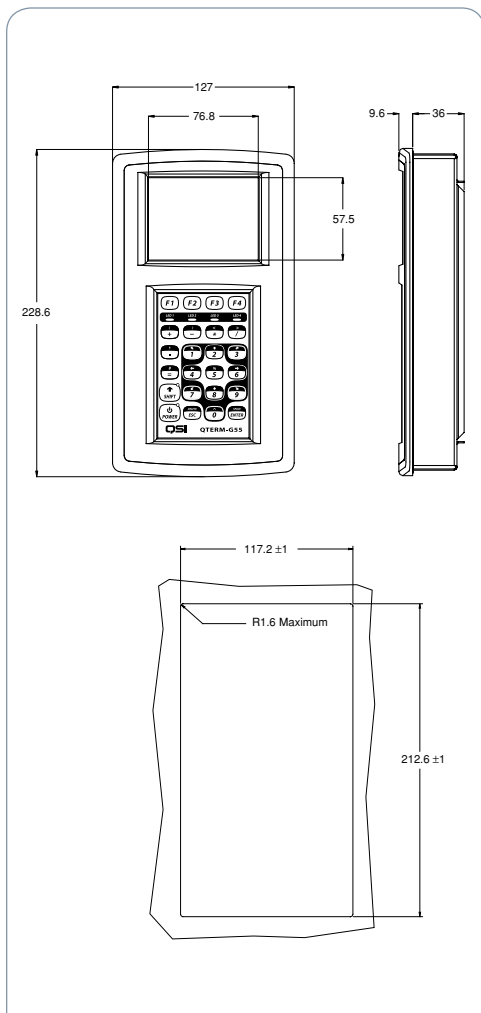

Figure 3 ▲ *QTERM-G55 panel-mount and panel cutout dimensions (mm).*
**HOUSING:** The QTERM-G55 handheld is made of an ABS polycarbonate plastic with an overmolded rubber boot for comfort and shock protection. The case meets NEMA-12 standards and can optionally be configured to meet NEMA-4 specifications for hose-down, icing and salt spray. See Figure 3 for dimensions.